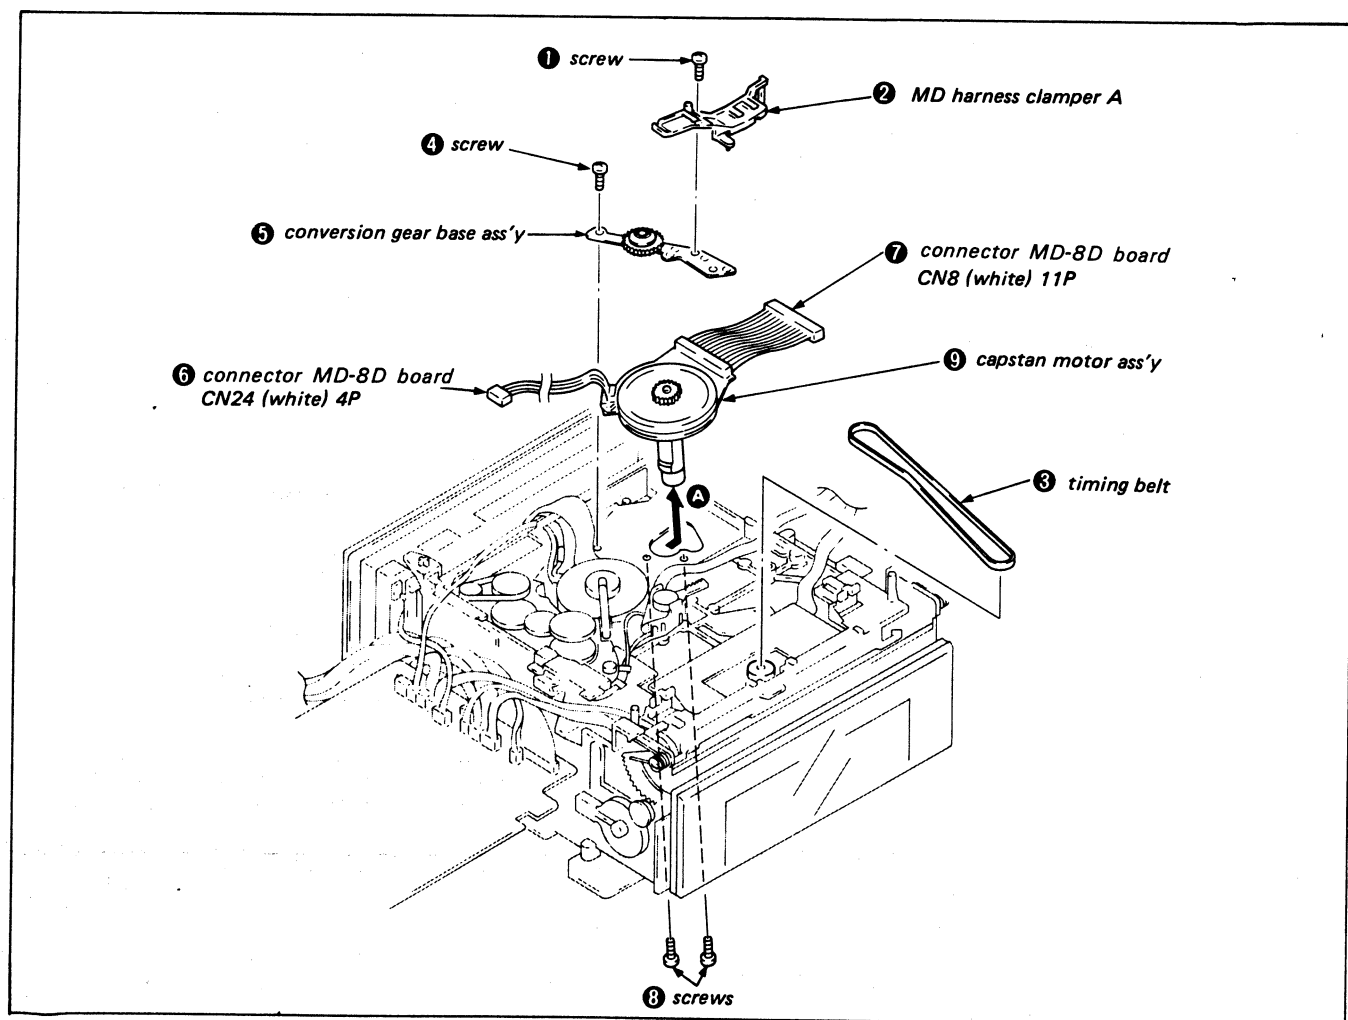

Fig. 3-41.
- 6) Remove connectors ⑥ and ⑦.
- 7) Remove the two screws ⑧ and remove the capstan motor assembly ⑨ in the direction of arrow A. (Fig. 3-41)
- 1) Mount capstan motor assembly ⑨ and tighten the two screws ⑧.
- 2) Connect connectors ⑥ and ⑦.
- 3) Mount conversion gear base assembly ⑤ and tighten screw ④.
- 4) Mount timing belt ③.
- 5) Mount MD harness clasper A ② and tighten screw ①. (Fig. 3-41)